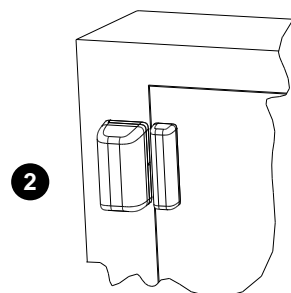

Fig. 3b – Mounting on Fixed Surface
The sensor should be mounted on the fixed surface and the magnet on the moving surface (see Figure 3b).
2. Align the device with the magnet according to the location marks and fasten the device and magnet to the mounting surface. The sensor should be mounted on the fixed surface and magnet on the moving surface (see Figure 3b).